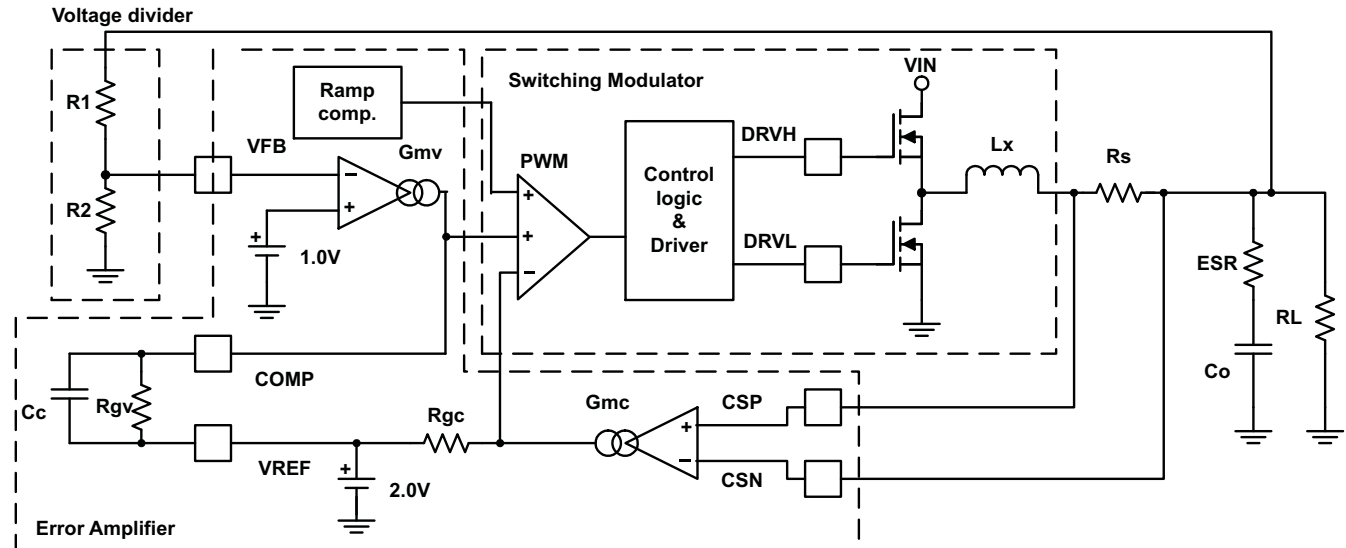
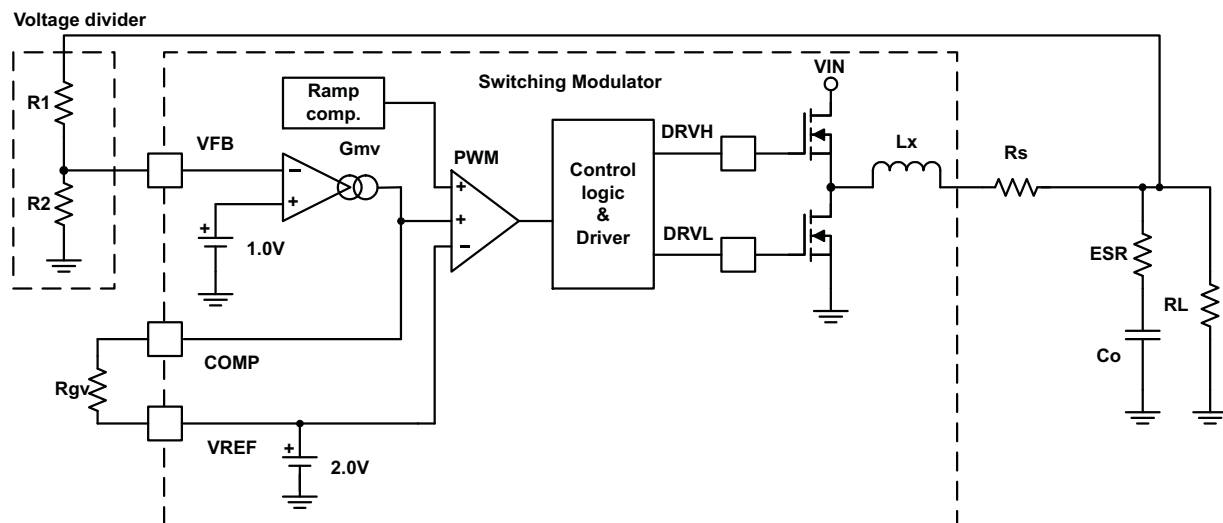

Figure 44. Simplified Current Mode Functional Blocks
Figure 45. Simplified D-CAP Mode Functional Blocks
A buck converter using the TPS51220A consists of linear circuits and a switching modulator. Figure 44 and Figure 45 show basic scheme.
1. **Determine output voltage dividing resistors.** (R1 and R2: shown in Figure 44) using Equation 7.